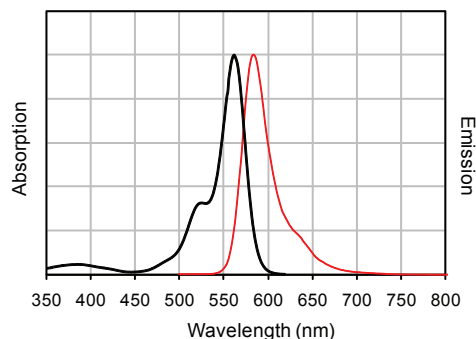

Figure 1. Normalized absorption and emission spectra for CF™568 conjugated goat anti-mouse IgG.
**Abs/Em Maxima:** 562/583 nm (See Figure 1)
CF™568 is a red fluorescent dye with an excitation spectrum optimally matching the 568 nm line of the Ar-Kr mixed-gas laser (Figure 1). Antibody conjugates of the dye are much brighter than those of Alexa Fluor® 568. In addition, the photostability of CF™568 is superior to that of Alexa Fluor® 568, making CF™568 a much better choice for demanding applications, such as confocal and single molecule-based imaging.